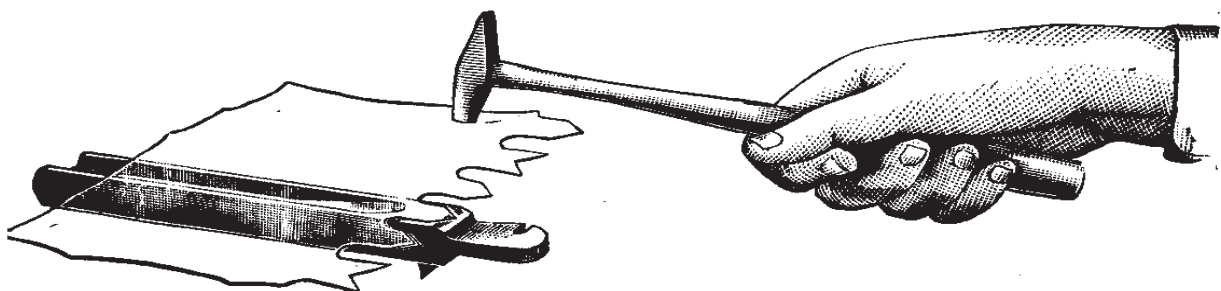

FIG. 3—SETTING BLOCK.
**Fourth:**—If a Saw requires setting, lay the Block or Anvil, Fig. 3, on some convenient flat, solid surface and hold the Saw so that the point of tooth projects over the beveled edge of anvil about one quarter of an inch. Give two or three strokes with a light hammer, striking the tooth always about one quarter of an inch from the point. It is very important that the Set should be perfectly